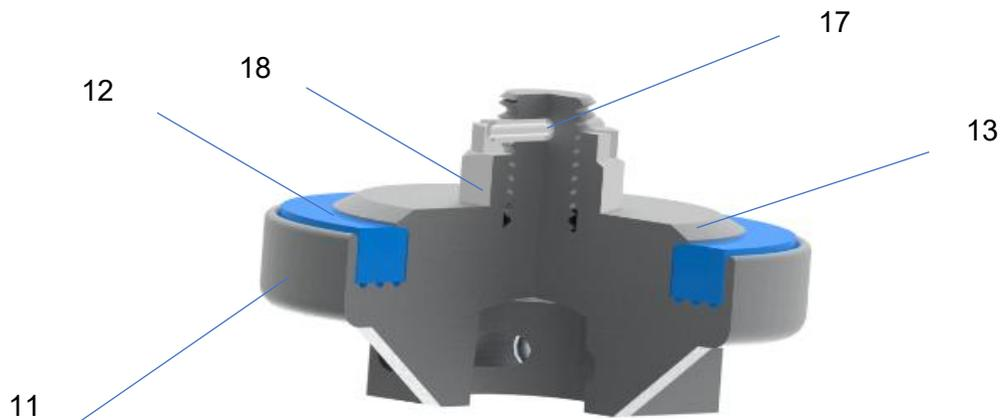

Figure 13
11.27. Refer to Figure 13 and install poppet (11) in a fixture with the poppet threads pointing up.